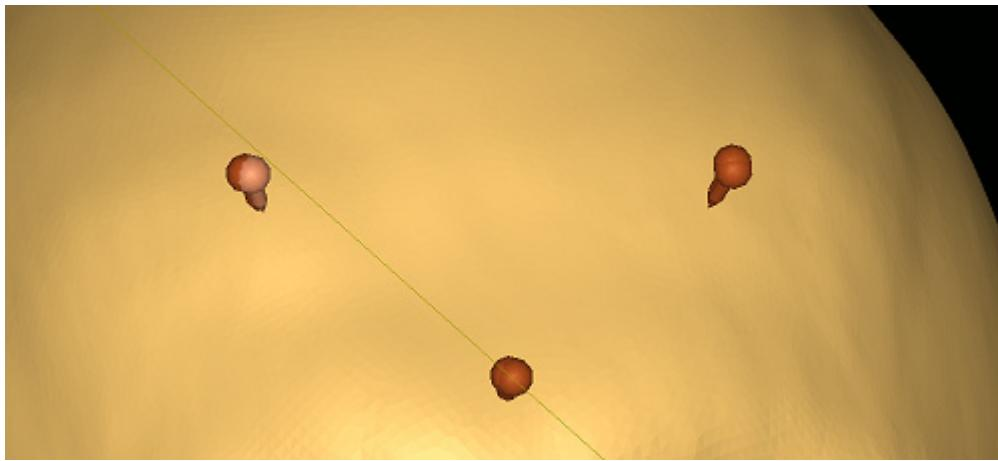

Fig. 80. Checking the registration integrity
2. Compare the digitization points with the points in the digitization exam containing the reference points for this registration. The registration is valid if the digitization points of the first and second digitization exams are in contact, that is, overlap (partially or fully). See Figure 80.